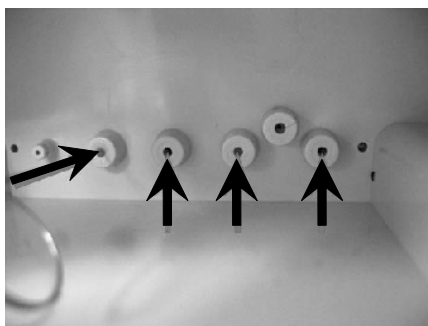

Fig. 7-57 Insert stylette into the valve cartridge ports.
2. Once the valve cartridge is removed, the 4 fluid ports indicated need to be checked/cleared with the stylette (Fig. 7-57).